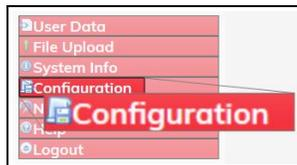

Figure 144: Configuration link
4. On the **Menu** list, click the **Configuration** link. Figure 144